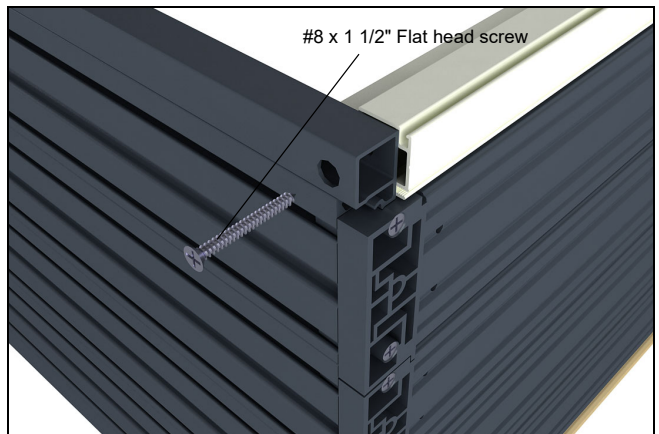

Figure 20
7. Fasten sill liner to frame cladding using #8 x 1 1/2" flat head screws. See figure 20. *Note: Ensure hole is lined up with screw boss in frame cladding.*